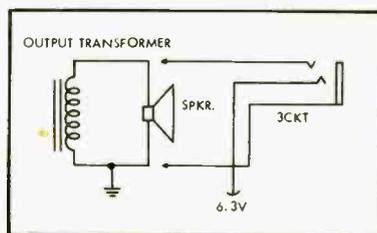
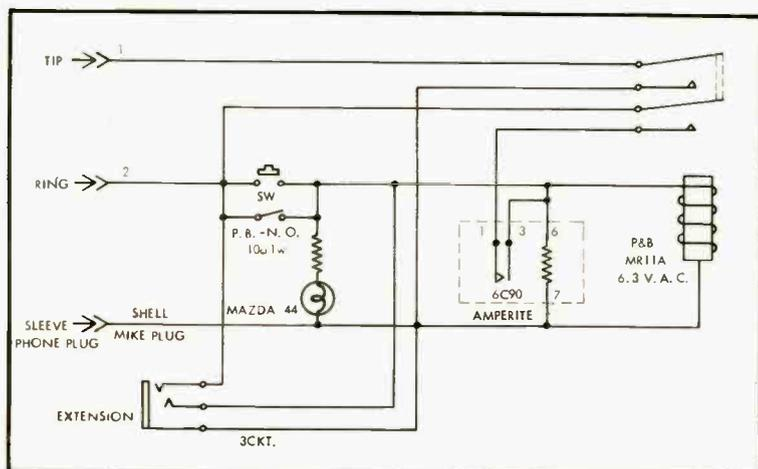

Fig. 2. Receiver connections for time-delay suppressor.
Fig. 1. Schematic of time-delay commercial suppressor.
Some study of the nature of commercials, made with a radio receiver, a stopwatch, and some blood-pressure medicine, shows that the length of the commercial at most stations is fairly constant, and seldom exceeds 80 seconds. Thus, a device which will shut off the audio output of the receiver for 80 seconds plus a margin of safety, will eliminate the major part of most commercials. Such a device is easily made from a self-holding relay, a push button, and a time-delay unit, necessary power being supplied by the receiver. The circuit of such a time-delay commercial suppressor is shown in Fig. 1 and the method of connecting this device to the receiver is shown in Fig. 2.
connection, on the rear, Fig. 5, is an Amphenol three-terminal mike fitting, terminal 3 being connected to the shell. The other end of the connecting cord, which is a two-wire shielded microphone cable, terminates in a three-circuit plug (Switchcraft #267), which engages the receiver jack (Fig. 2). The front jack, for the extension, is a narrow-gauge type (Switchcraft JJ-033) to engage a like three-circuit plug (Switchcraft P.J-068). The use of unlike connectors here is intentional, as components are not interchangeable.
Fig. 2. Amplitude compensation circuit. *e* is open-circuit output voltage of generator supplying signal to compensation circuit. *r* is internal series resistance of generator output. *C*₁ is bass pre-emphasis compensation capacitor. *C*₂ is crossover control capacitor. *R*₁ and *R*₂ provide treble boost.
Figure 2 shows a schematic of a circuit which will provide correct compensation for an amplitude sensitive pickup. In this circuit, *e* represents the audio output signal of the pickup, or a subsequent amplifier stage. With a capacitance pickup *e* comes from the associated oscillator-converter, or a subsequent stage; *r* represents the internal resistance in series with *e*. For the Weathers oscillator-converter *r* is about 45,000 ohms. *C*₁ in connection with the resistance (*r* + *R*₁ + *R*₂) provides 6-db-per-octave compensation for bass pre-emphasis. The maximum treble boost ratio *G* is equal to (*r* + *R*₁ + *R*₂) / (*r* + *R*₁), from which it follows that *R*₂ / (*r* + *R*₁) is equal to (*G* - 1). Values of this parameter for the important record-
*f*₀ = Frequency at which treble boost is half maximum. *F* = Time constant for bass pre-emphasis compensation. *K* = (r + R₁) / R₂. *J* = √(15 + 4πK(r + R₁)). For *r*, R₁, R₂, C₁, and C₂, see Fig. 2.